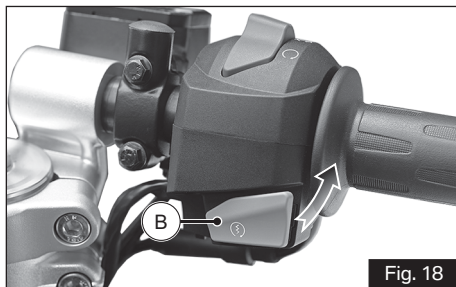

Fig. 18
B) Switch electric starter (ref. Fig. 18)